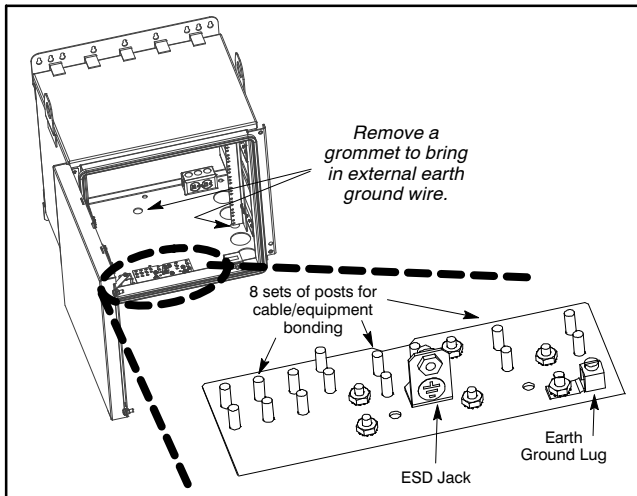

Figure 11. Cabinet, Cable, and Equipment Ground Plate
Eight sets of bond/ground posts are provided on a ground plate on the interior floor of the cabinet (see Figure 11). These posts are provided to bond network and customer equipment or communications cables. An external earth ground rod or wire (#6 AWG) must enter the cabinet and be connected to a ground lug located on the interior ground plate. **Make all ground connections prior to any telecommunications cable connections.**
2. **Remove a knock-out for the earth ground wire.** Per company practice, determine which cabinet knock-out hole location should be used for earth ground wire entrance (see Figure 11). If not already removed, remove the selected knock-out.